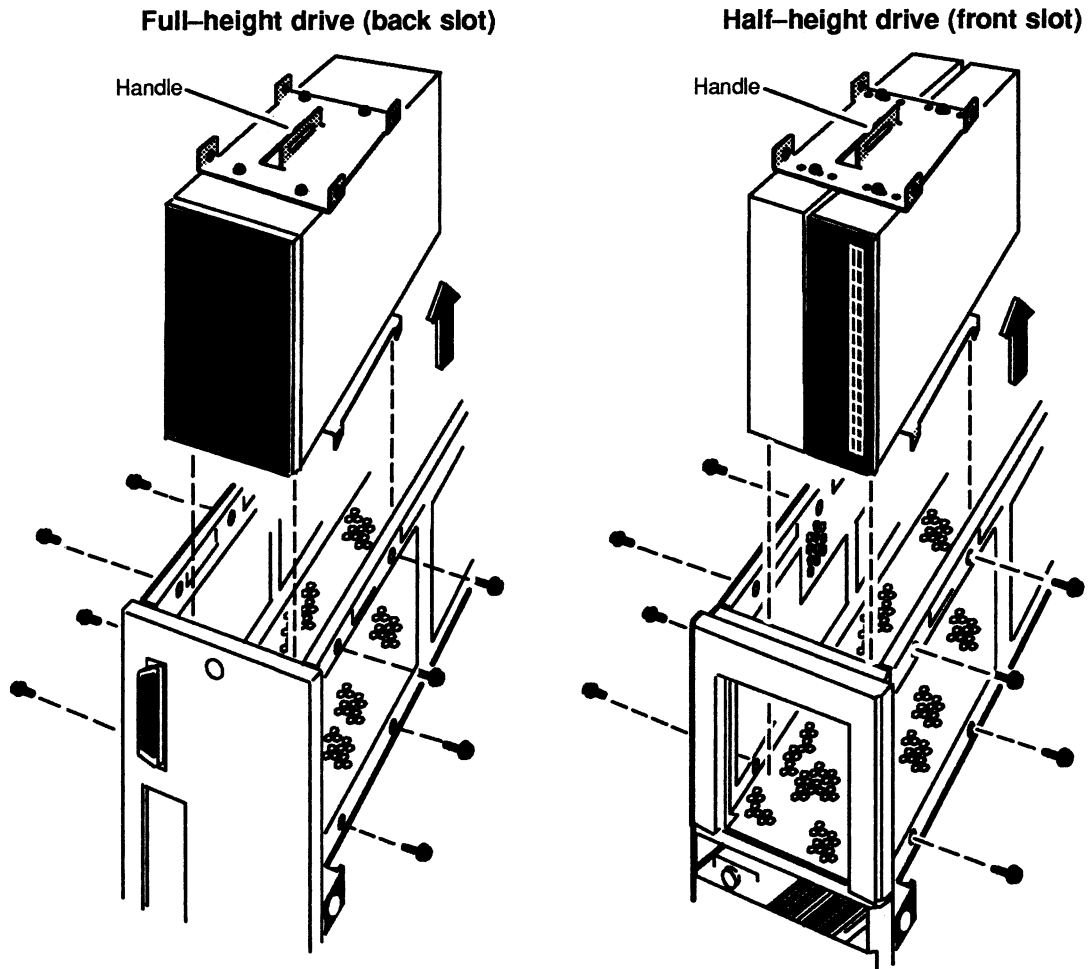

Figure 2-7 Removing a Drive Assembly from the Computer Unit
2. Remove the eight screws and washers securing the drive assembly to the computer unit as shown in Figure 2-7.